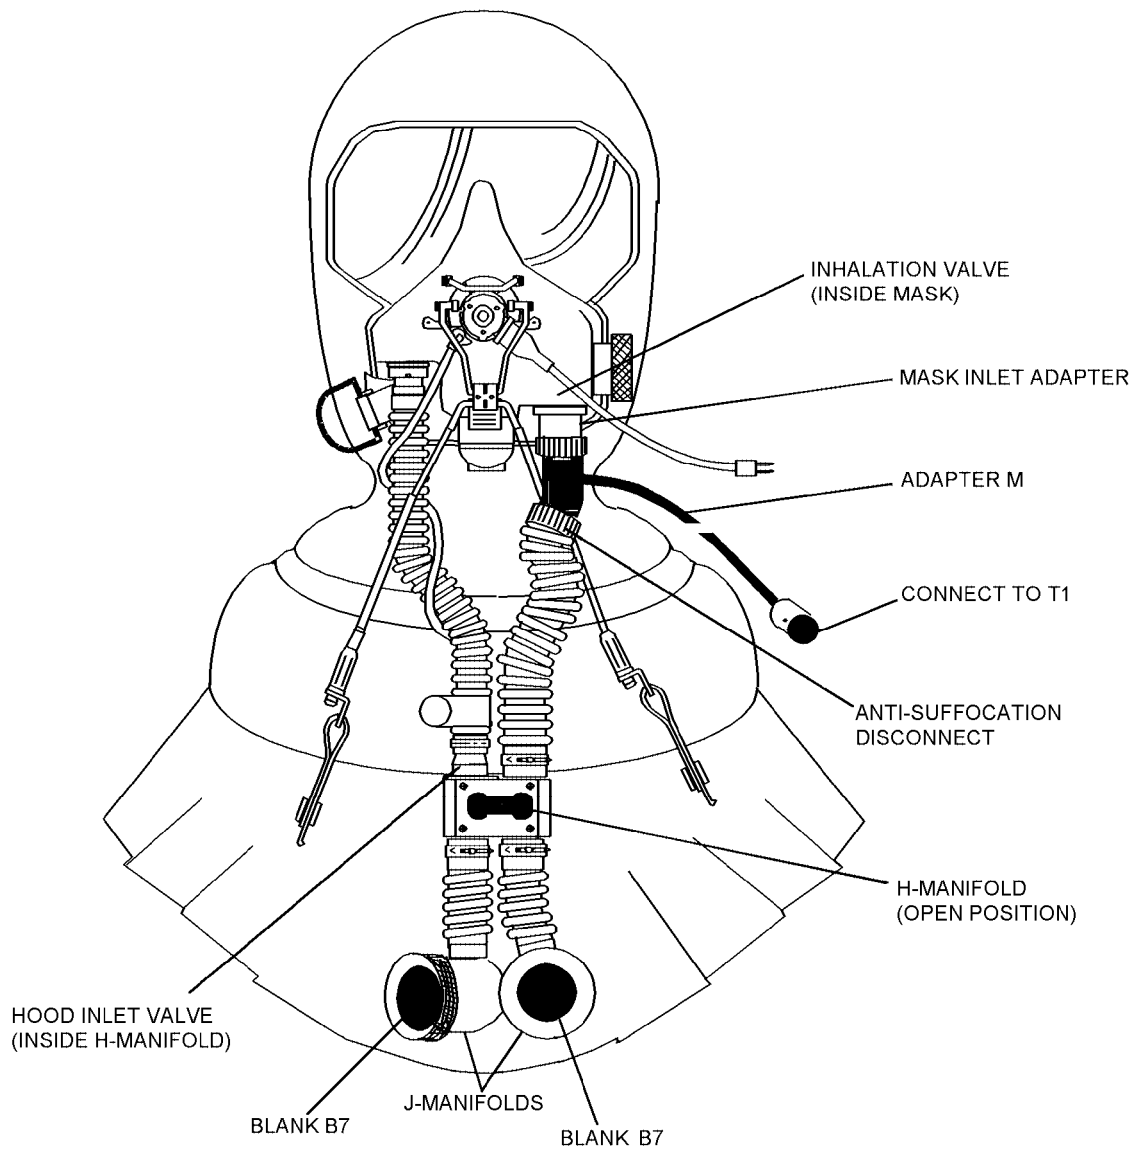

Figure 4-91. (V)2 thru (V)4 Variants Inhalation and Hood Inlet Valves - Reverse Leakage Test
7. Connect adapter M between mask inlet adapter and anti-suffocation disconnect (figure 4-91).